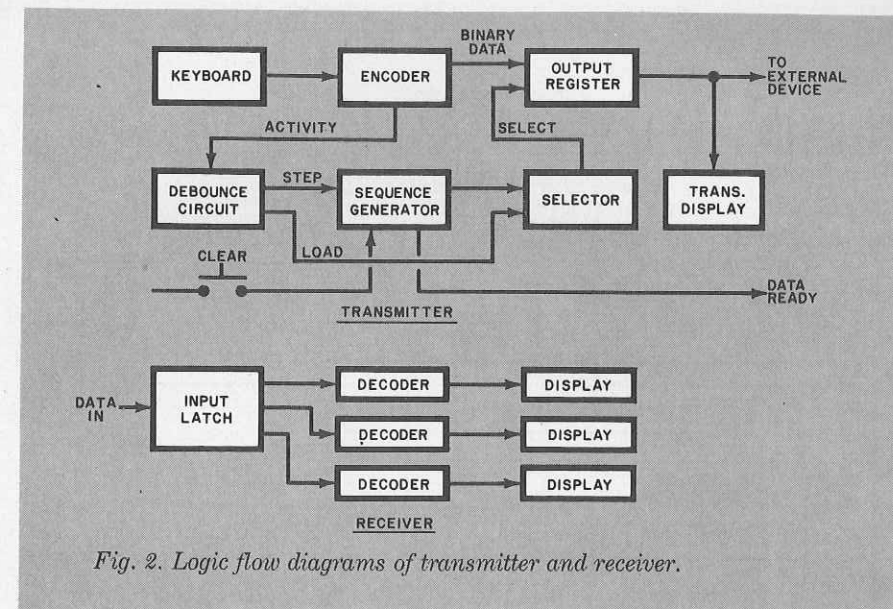

Fig. 2. Logic flow diagrams of transmitter and receiver.
The VLCT performs seven functions: (1) converts the operator's octal input to binary format; (2) eliminates any bounce that might be present in the key switches; (3) loads the binary data into and retrieves it from a register and stores it until transmission; (4) determines where each piece of data goes in the output register; (5) transmits a "ready" signal after the third octal number is entered; (6) receives and stores binary data from the computer; and (7) decodes this computer data in either octal, decimal, or hexadecimal display format. The overall block diagram of the terminal shown in Fig. 2 should be consulted whenever any question concerning functions arises.